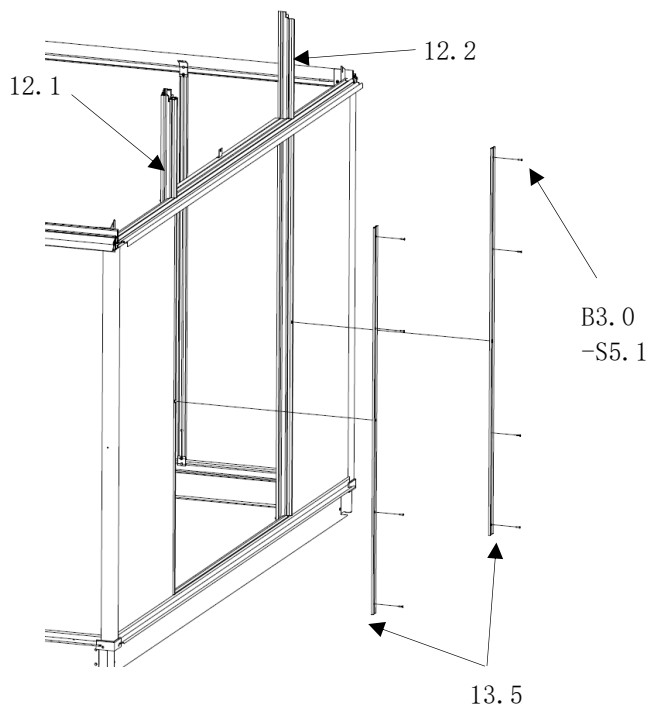

fig. 35
the cover strips (item 13.5) are placed on the gable glazing-bars (item 12.1/12.2) from the outside and screwed in place with 5x countersunk screws 4.2x22 (item B3.0/S5.1) (fig. 35)
(fig. 35)